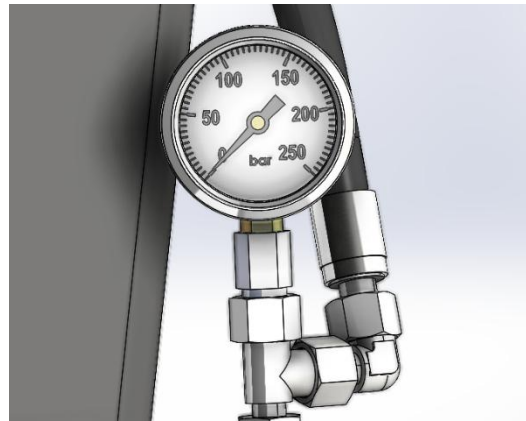

Figure 13-4 Pressure gauge
3. Pump with the hand pump until the pressure gauge indicates 100 bar, the pressure gauge can be found in different places on the vehicle, see Figure 13-4. The specific position of the pressure gauge depends on the vehicle, but it will always be mounted on the outgoing pipe of the hand pump.